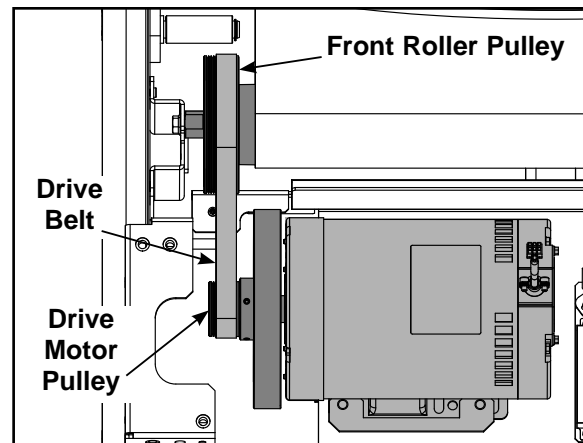

Figure 17
- D. Ensure that the drive belt is aligned properly in the grooves on the drive motor pulley and front roller pulley. The drive belt should be positioned in the inner most groove on the front roller pulley. See Figure 17.